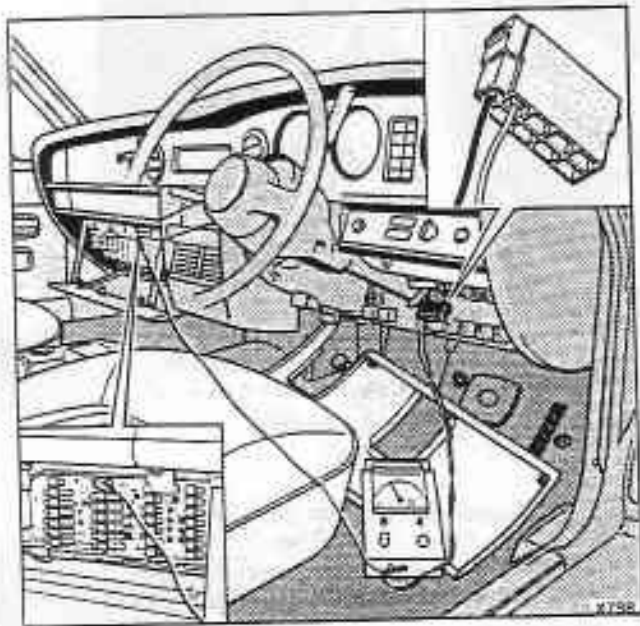

Fig. K11-33 Test box RH9757 in position
2. Locate the speed control unit and disconnect the speed control electrical socket (see fig. K11-33).
3. Connect the boost limit control test box RH 9757 to the loom socket. Ensure that the red cable from the test box connects to a 12 volt feed (see fig. K11-33).